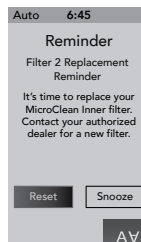

Figure 15.0e
20. **MicroClean Inner Filter Reminder:** This message will appear when the filter reminder time has expired (Figure 15.0e). The MicroClean Inner filter must be replaced.